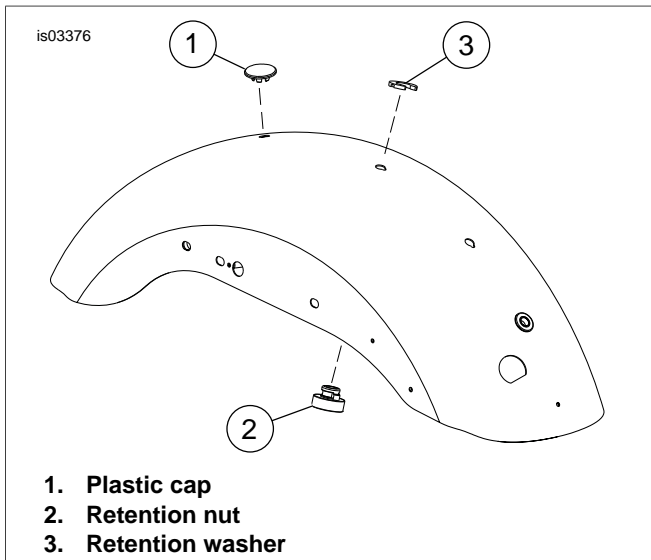

Figure 2. Retention Nut and Plastic Cap (Solo Seats)
3. **For XL883 and XL883L models:** See Figure 2. Remove plastic cap (1) from rearward fender hole and save.
4. Remove retention nut (2) and washer (3) from middle fender hole.